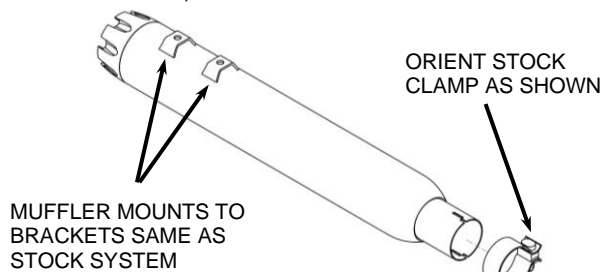

FIGURE 8
14. Slide the stock clamps over the slip-on mufflers and position them as shown in **Figure 8 & 9** with the hex head facing inward and towards the ground.
15. Slide the mufflers onto the headpipes until the mounting holes align. Reinsert the (2) stock 5/16-inch bolts into each rear muffler mount. Note: Indent on right muffler will face inward. **Do not tighten** clamps or bolts.